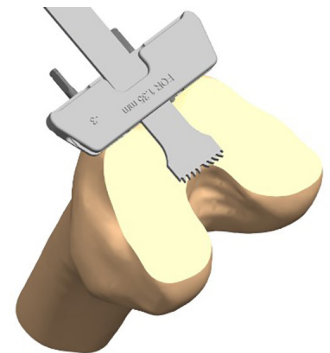

Figure 10
3. Resect the distal femur (Figure 10) then remove the distal femoral cutting block.